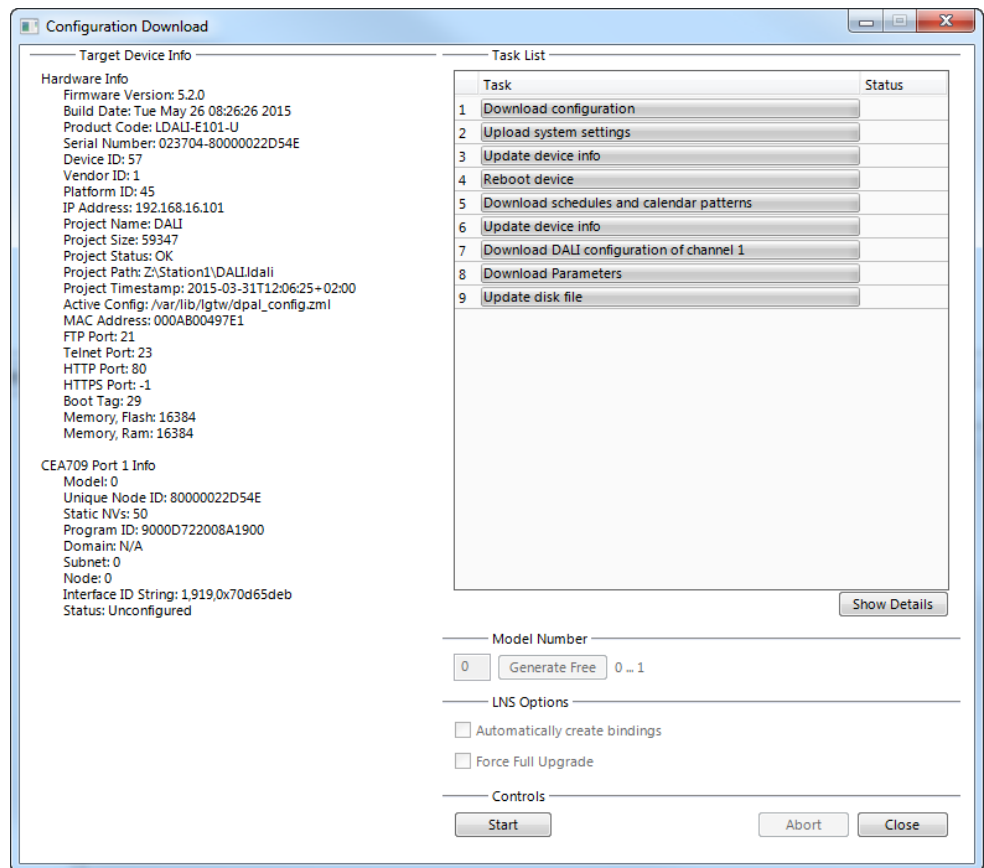

Figure 144: Configuration Download Dialog.
3. After clicking on **OK** the **Configuration Download** dialog appears as shown in Figure 144. Click **Start** to start the download. Each of the actions is displayed in the **Task List** section of the dialog. The current progress is indicated by the progress bar below.